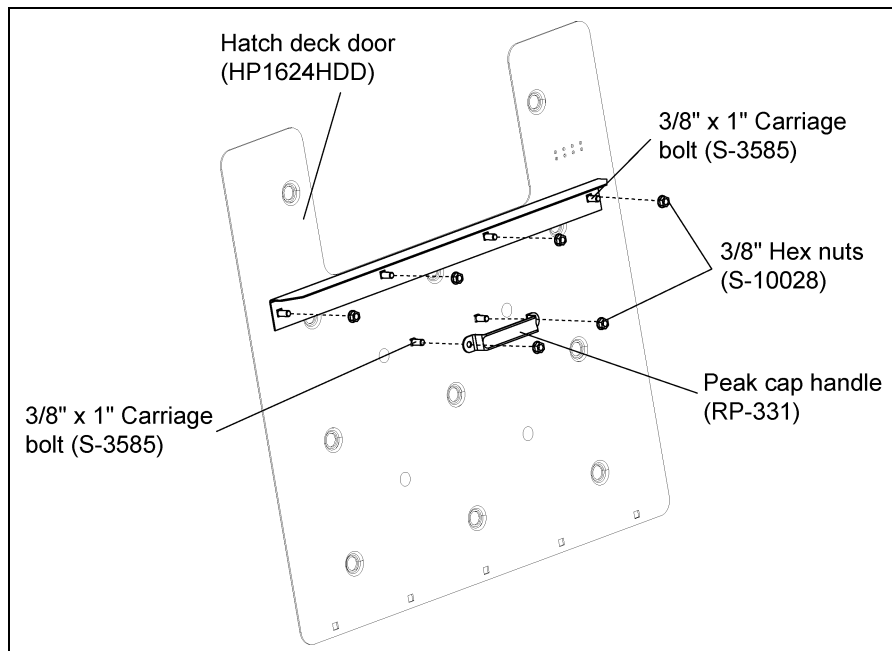

Figure 11B
2. Install hatch support (HP1624HS) to the bottom of the hatch door using 3/8" x 1" carriage bolts and nuts. (See Figure 11B.)